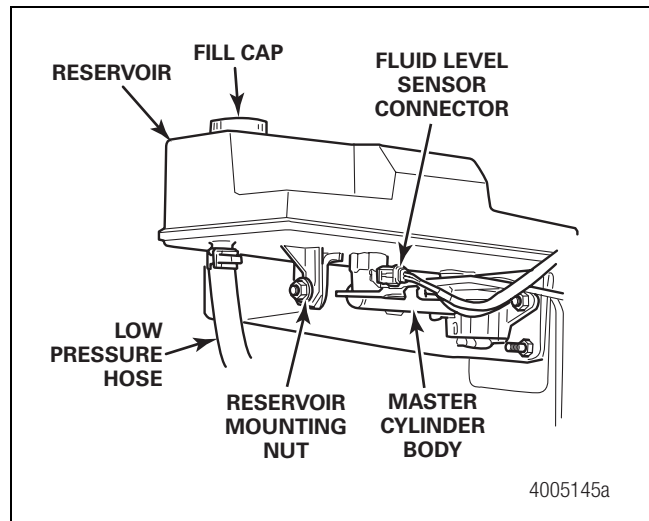

Figure 4.51
1. Install the fluid level sensor in the same direction as the switch you removed. Figure 4.51.